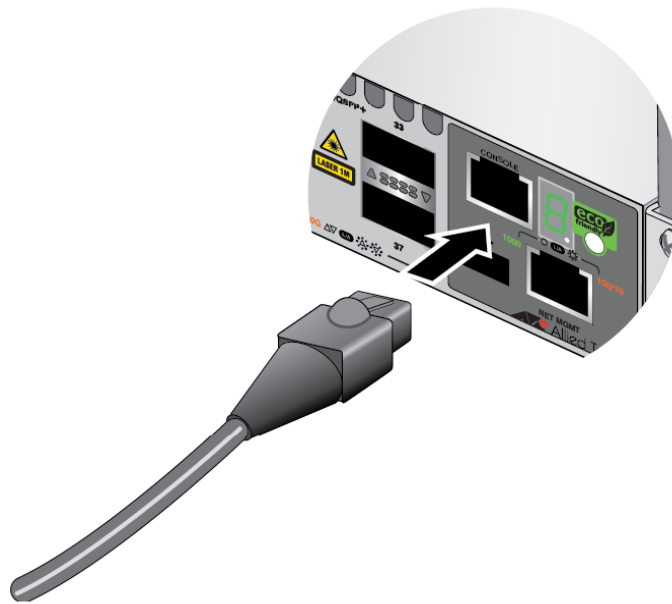

Figure 123. Connecting the Management Cable to the Console RS-232 Port
1. Connect the RJ-45 end of the management card included with the switch to the Console RS-232 port on the management panel. Refer to Figure 123.